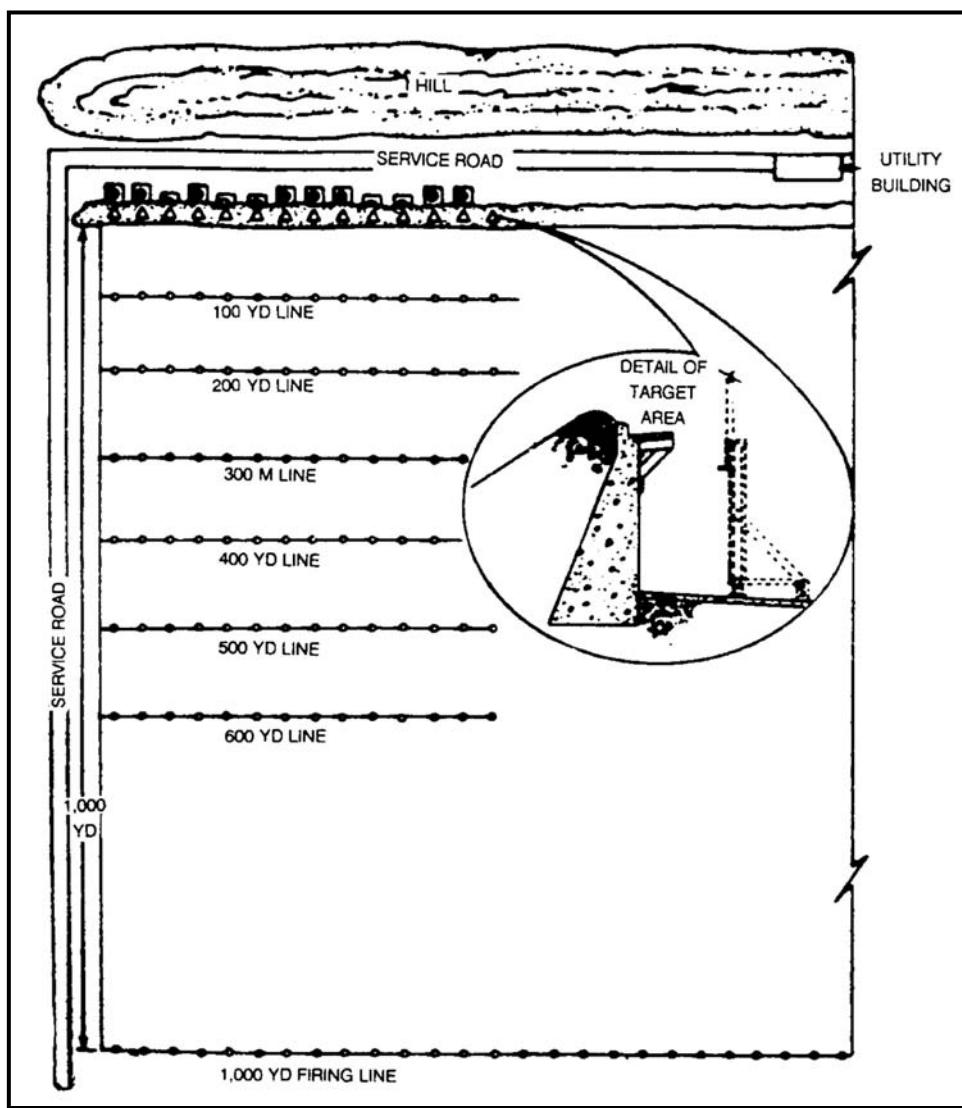

Figure 5-24. Known-distance range.
g. Conduct of a Standard KD Range. The standard KD range is conducted with paper targets at 100, 200, and 300 meters (Figure 5-24, page 5-24). Shot groups are fired progressively at the targets. Half the bullets are fired from the supported firing position and the other half from the unsupported firing position. The wind speed and direction must be determined before firing and the firer must know the distance to the target. After each shot group is fired the targets are marked. Based on this feedback, soldiers receive a critique from their instructor-trainer or coach, and apply adjusted aiming points as necessary. The downrange feedback exercise must be conducted within the constraints of time, ammunition, and available ranges. If 30 rounds of ammunition are available for training, firing three-